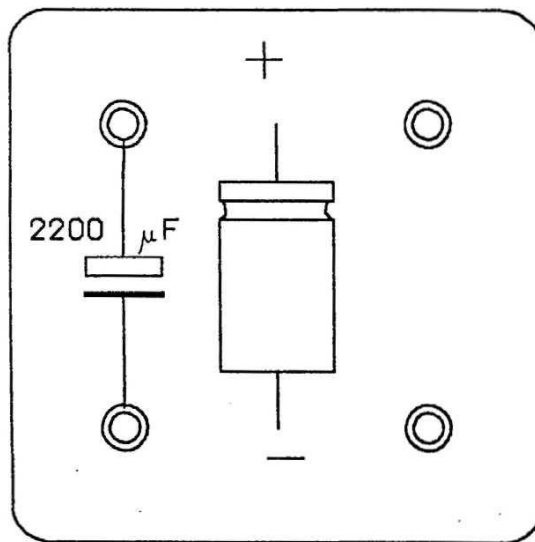

Fig.4 Modul Kondensator
1.3. MD04603: Modul Kondensator (Abb. 4)